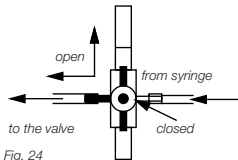

Fig. 24
- b) With the silicone tube immersed in the water bath, turn the three-way faucet so that the syringe is isolated from the manometer (see Fig. 24).
- f) Carefully maintain a flow through the shunt and turn the three-way faucet as shown in Fig. 24 to isolate the syringe. As soon as the three-way faucet is in the correct position, the water column should begin to drop. The syringe is now isolated from the valve and it is not necessary anymore to maintain its flow. Repeat steps b) to f) if the water column fails to drop.